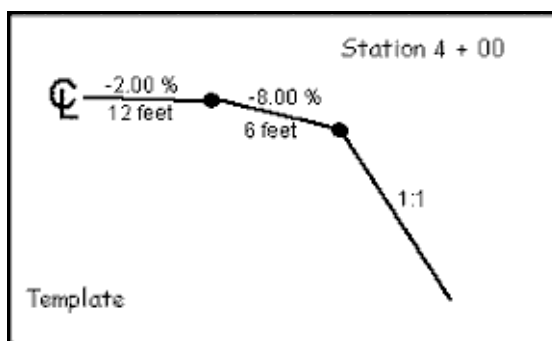

Figure 8-80 Fill Templates without a Backslope Example
2. Type 400 and press **STA** to start editing the template at station 4+00. This new template is a copy of the template at station 3+00. You will change it to match the template shown in Figure 8-80 on page 179.